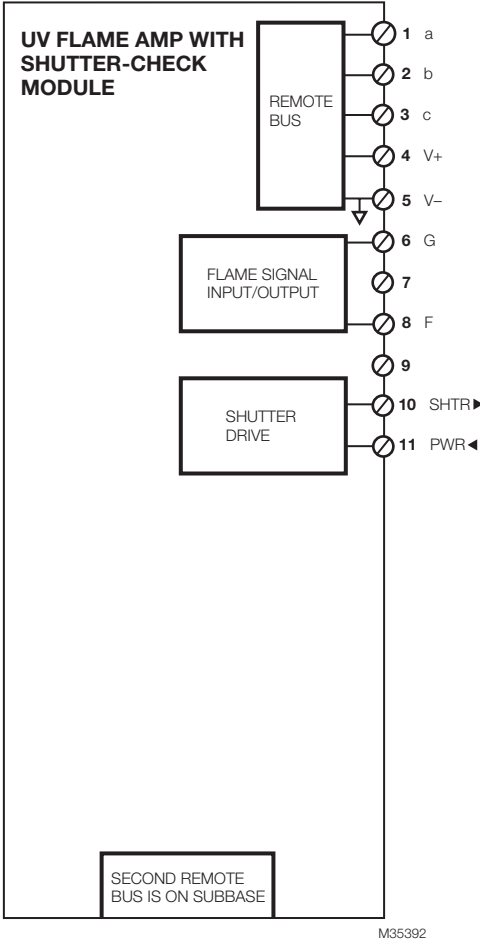

Fig. 4. R8001S1051 SLATE UV Shutter-Check Flame Amplifier wiring.
1. Refer to Fig. 4 for proper flame detector wiring.
- (1) Enclose scanner wiring without armor cable in metal cable or conduit.
- (2) Follow flame detector Instructions.
6. Check wiring, see Fig. 4.